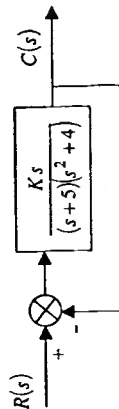

Figure 3.
- For the system shown in Figure 3, sketch the root locus showing all the pertinent characteristics and find the range of K within the system is stable.